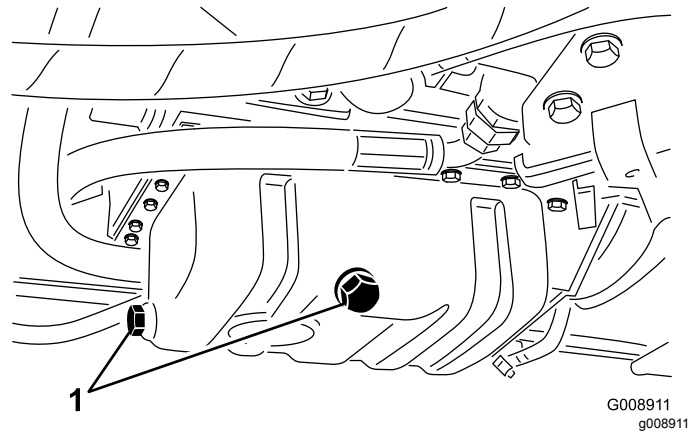

Figure 63
1. Remove either drain plug (Figure 63) and let the oil flow into a drain pan; when the oil stops flowing, install the drain plug.